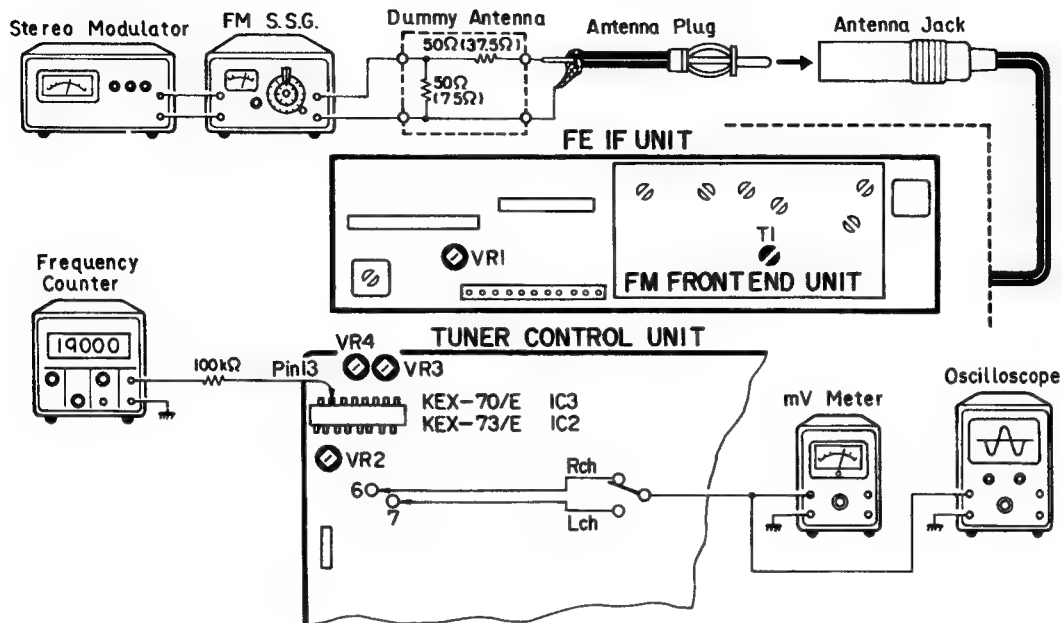

Fig. 28
• Connection Diagram (shown in Fig. 28)
- Connection Diagram (shown in Fig. 28)